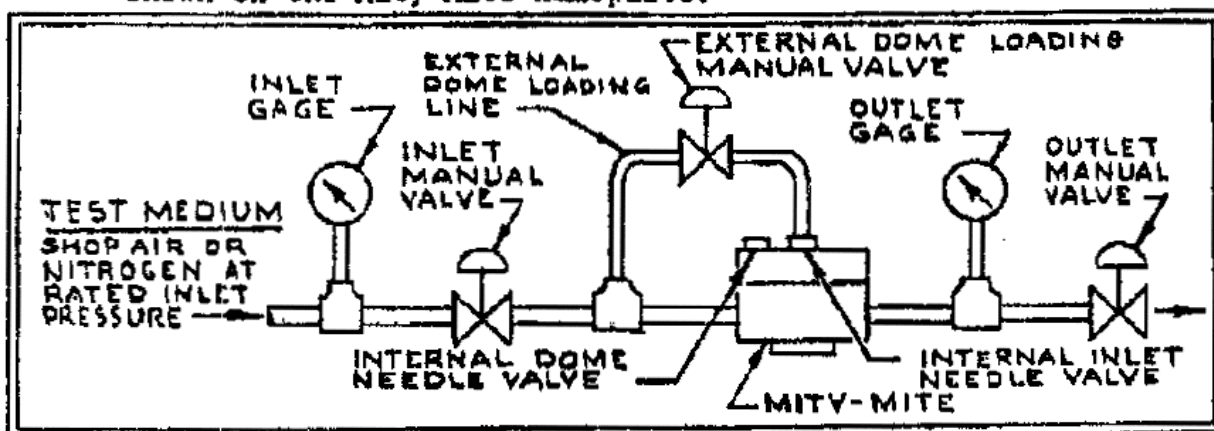

FIGURE 1. ACCEPTANCE TEST SET-UP
1. Mount Mity-Mite in test set-up as shown in Figure 1.